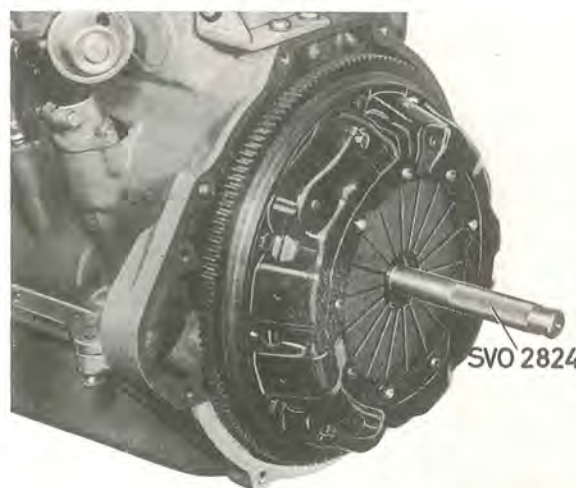

Fig. 4-8. Fitting the clutch
1. Set up the clutch plate (the longest side of the hub facing backwards) together with the clutch against the flywheel and insert the centring mandrel SVO 2824 so that the guide journal on this centres the pilot bearing in the flywheel, see Fig. 4-8.